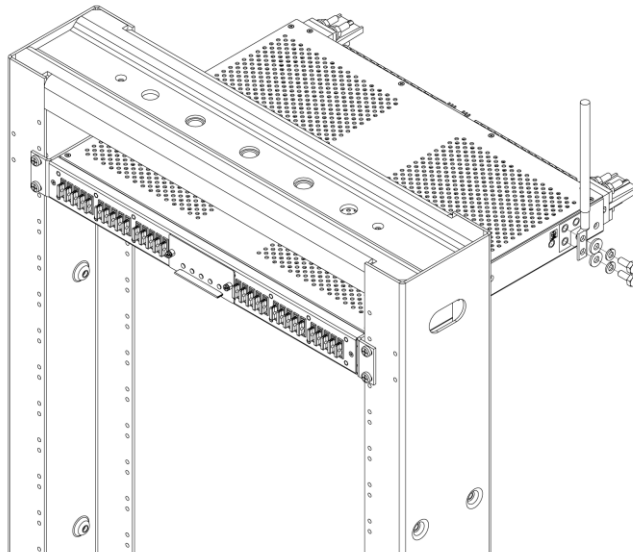

Fig. 2-4: Grounding lug connection
**ALERT!** Only use components and crimping tools approved by agencies or certifying bodies recognized in your country or region such as Underwriter's Laboratories (UL), TUV, etc.
8. If required, lightly coat antioxidant on lug and grounding surface on the side or bottom of the panel. Connect the lug using  $\frac{1}{4}$ -20 bolts, split washers and flat washers provided, as shown in Fig. 2-4.